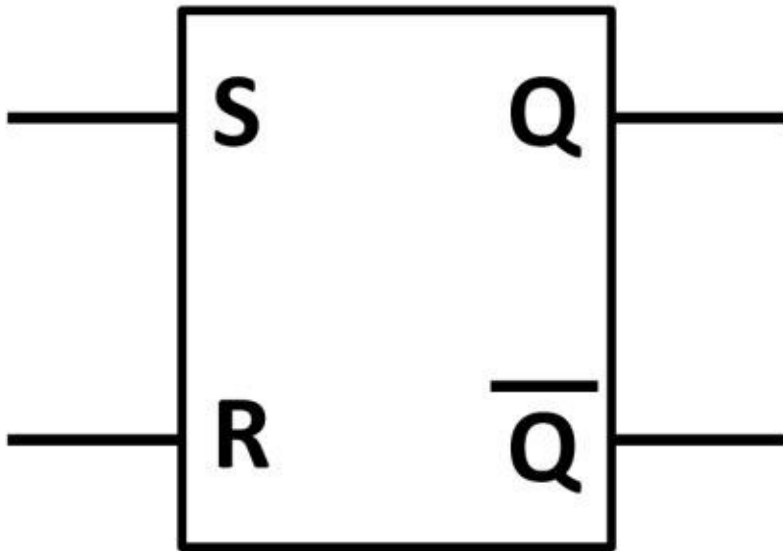

Figure 5.23: Latch schematic symbol
automobiles nowadays have memory seats. The passcode of a home security system is stored as memory within the system. Smartphone cameras store images or videos as memories. There are many more electronic applications that use memory. Digital circuits such as the latch and flip-flop are basic building blocks of digital systems and data storage elements. Digital systems combined with standard logic gates and memory are called sequential logic. The difference between a latch and a flip-flop is that a flip-flop uses a clock to determine the output states, a latch does not. A latch consists of two inputs, a set (S) and reset (R), and a differential output pair (Q, \bar{Q}). Figure 5.23 shows the latch schematic symbol.